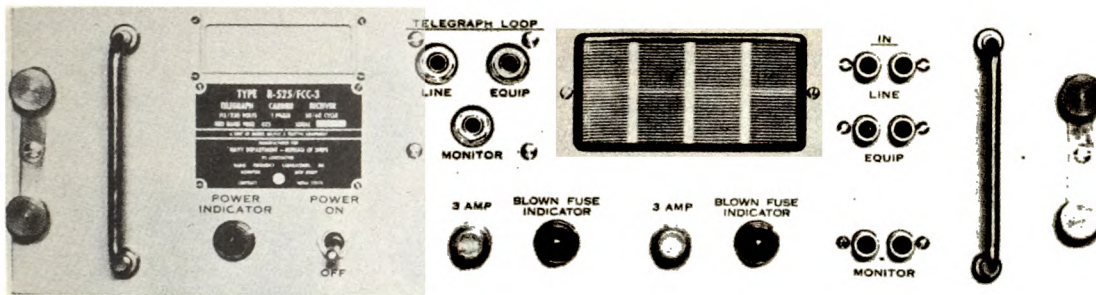

Figure 4-3. Telegraph Carrier Receivers R-525/FCC-3 through R-536/FCC-3, Identification of Controls
a. GENERAL. - Refer to figure 4-3 for the position of the various front panel operating controls and their functions. The front panel jacks are for signal patching and testing purposes. Care should be taken that all patching jacks and cords used with the equipment are polarized, since the left-hand side of the IN EQUIP and IN MONITOR jacks are grounded. The telegraph loop can be patched at the TELEGRAPH LOOP EQUIP and jacks, or monitored at the TELEGRAPH LOOP LINE MONITOR jack. As shown in the block diagram of figures 2-1 and 2-2, the telegraph carrier receivers operate as the receiving part of the Telegraph Carrier Terminal AN/FCC-3. Table 1-3 gives the carrier MARK and SPACE frequencies of the receivers. Except for the four wide-band channels, the chassis and wiring of each receiver are the same for all channels. An 0.006 mf capacitor replaced an 0.02 mf capacitor C2109, C2209, C2309, and C2409 in the wide-band receivers. There are no operation controls on the front panel since the equipment does not require adjustment during operation. The rear chassis controls are maintenance adjustments and remain in correct adjustment over long periods of time. If the telegraph polarity is changed, it may become necessary to change the posi-